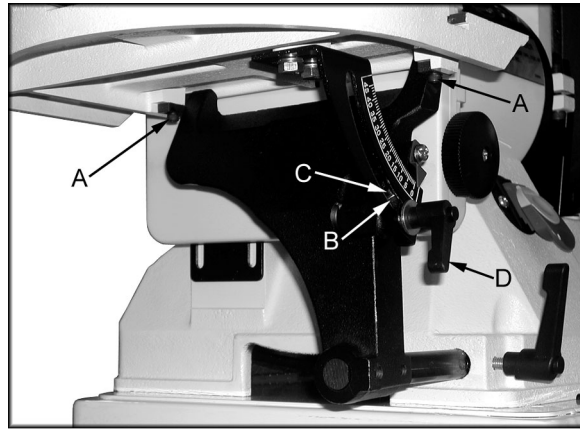

Figure 13
- If the miter slot is not parallel, loosen the two socket head cap screws (A, Fig. 13) and adjust for parallel. Tighten the two screws when the adjustment is complete.
- Always maintain a gap of approximately 1/16" between the table edge and disc. Once the table is square and parallel to the disc adjust the 90° stop. Loosen hex nut (B, Fig. 13) and tighten the set screw (C, Fig. 13) until it contacts the trunnion. Tighten hex nut.
- The table can be tilted between 0°-45° by loosening the handle (D, Fig. 13) and tilting the table to the desired angle. Tighten the handle. Always maintain a gap of approximately 1/16" between the table edge and disc.